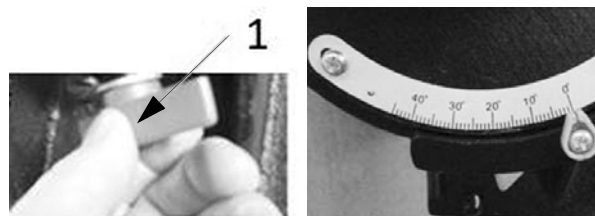

Fig. 17: Tilting the table
- Step 1: Open the fastening screw (Pos. 1, Fig. 17).
- Step 3: Tighten the fastening screw (Pos. 1, Fig. 17) again.